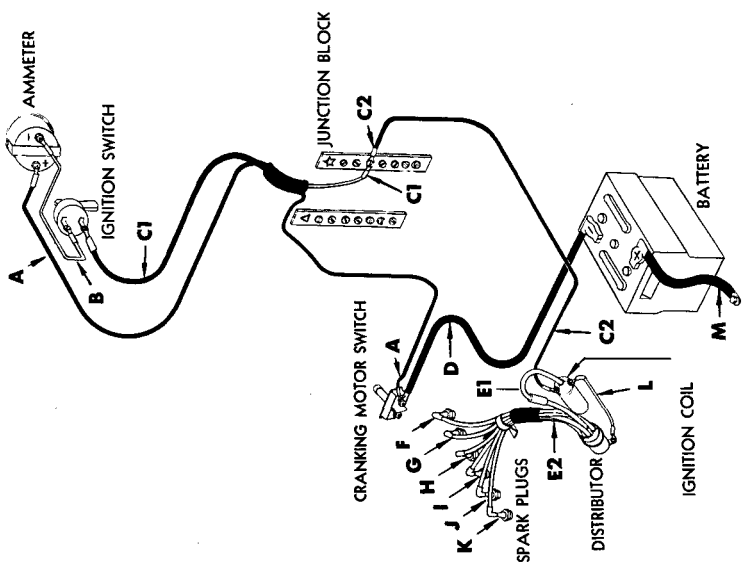

Figure 64-Ignition Wiring Diagram
a. Description. The low- and high-tension ignition wiring system (fig. 64) carries the primary low-tension electrical energy from the battery, through the ammeter, ignition switch, coil primary, and distributor; and as high-tension energy from the coil secondary through the distributor to the spark plugs, where the spark, jumping the plug gap, causes fuel to explode in the combustion chambers. Connecting wires from the battery to ammeter and ignition switch to primary coil terminal are part of the chassis front end wiring harness. Connecting wires from the ammeter to ignition switch, primary coil to distributor, high-tension secondary coil to distributor, and distributor to spark plugs, are separate wires. The six spark plug wires are supported as a group in an insulating conduit and held by suitable spool grommets and clips. Within the conduit the six spark plug wires are grouped around a central core wire, consisting of a tightly coiled steel spring, which extends the length of the conduit, the upper end of the core spring being grounded to the supporting metal clip, the lower end being free of metal contact. This central wire-coiled core acts to isolate and confine the individual spark impulses to their respective cables, and avoids impulse transfer from cable to cable, which would cause preignition in an "out-of-time" spark plug, a phenomena commonly known as "ignition bump." It is important that this center core be in position and properly grounded at all times for correct functioning of the ignition system.